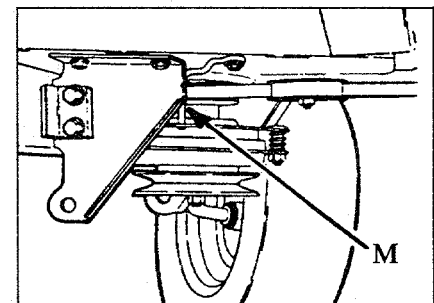

Figure 5-14:
2. Loosen the electric clutch locating retainer ("M", Figure 5-14).
8. Retighten the electric clutch locating retainer ("M", Figure 5-14).